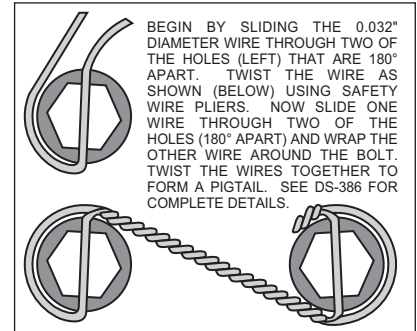

Figure 3. Safety Wire Diagram
- Install five new wheel studs (3) into the hub (4). Torque to 77 ft-lb. **NOTE:** *There are two five lug patterns in the hub (5 x 4.50 and 5 x 4.75).* Make sure of the correct hole pattern for the correct wheel application before installing studs into hub.
- Pack the large inner bearing cone (5) with high temperature disc brake bearing grease (available from your local auto parts store) and install into the backside of the hub (4).
- Install the grease seal (6) by pressing into the backside of the hub (4).
- Attach rotor adapter (7) to rotor (8) using six bolts (9). Apply red *Loctite*® 271 to bolts (9) and torque to 180 in-lb. Safety wire bolts (9) using standard 0.032 inch diameter stainless steel safety wire as shown in Figure 3. Please refer to Wilwood's data sheet DS-386 (available at www.wilwood.com/Pdf/DataSheets/ds386.pdf) for complete safety wire installation instructions. **NOTE:** *The flat side of the rotor (8) lugs face toward the rotor adapter (7) with the dished side of the rotor adapter (7) facing away from the rotor (8).*